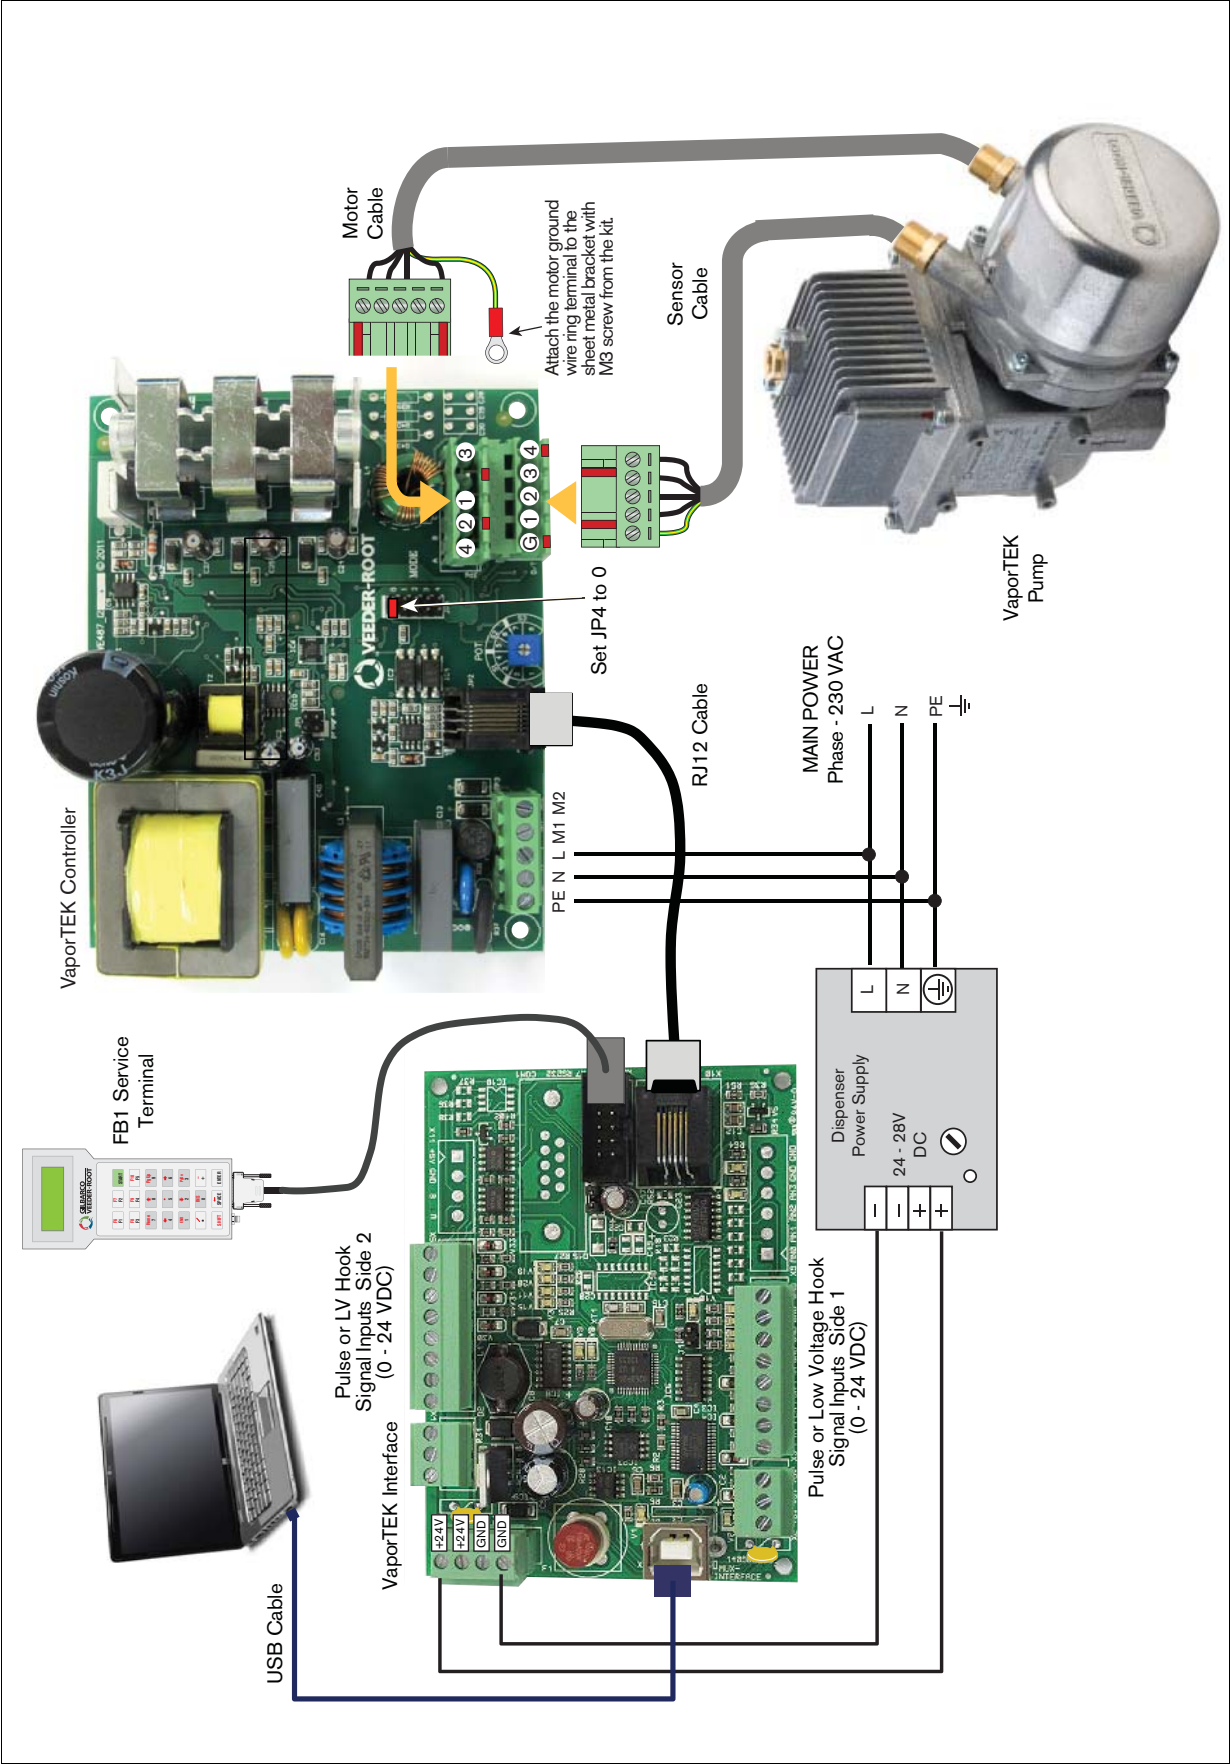

Figure 12. VaporTEK System - Liquid Pulse Signal and Low Voltage Hook Signal Input
3. VaporTEK with Low Voltage Hook Signal - Requires VaporTEK Interface Kit (see Figure 12)
- d. Set one jumper in position 0 on JP4 (see Figure 12).
4. VaporTEK with Pulse Signal - Requires VaporTEK Interface Kit (see Figure 12).
Connect your laptop to the VaporTEK Interface using a USB cable (see Figure 12).